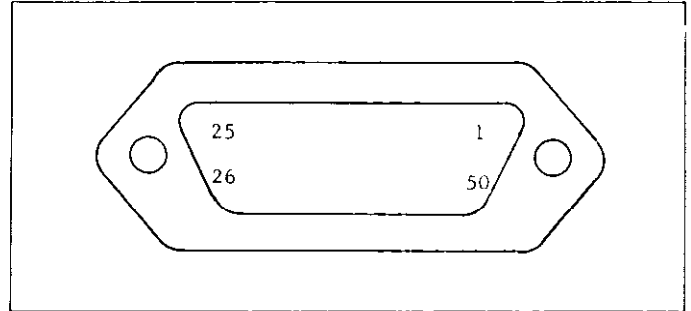

FIGURE 5. Digital Output Connector.
c. Output Connector Pin Identification. Refer to Table 2-7 and Figure 5. The 50-pin BCD-output receptacle (J108) of the Model 171 is an Amphenol Micro-Ribbon type 57-40500 (Keithley CS-221). The supplied mating connector is an Amphenol Micro-